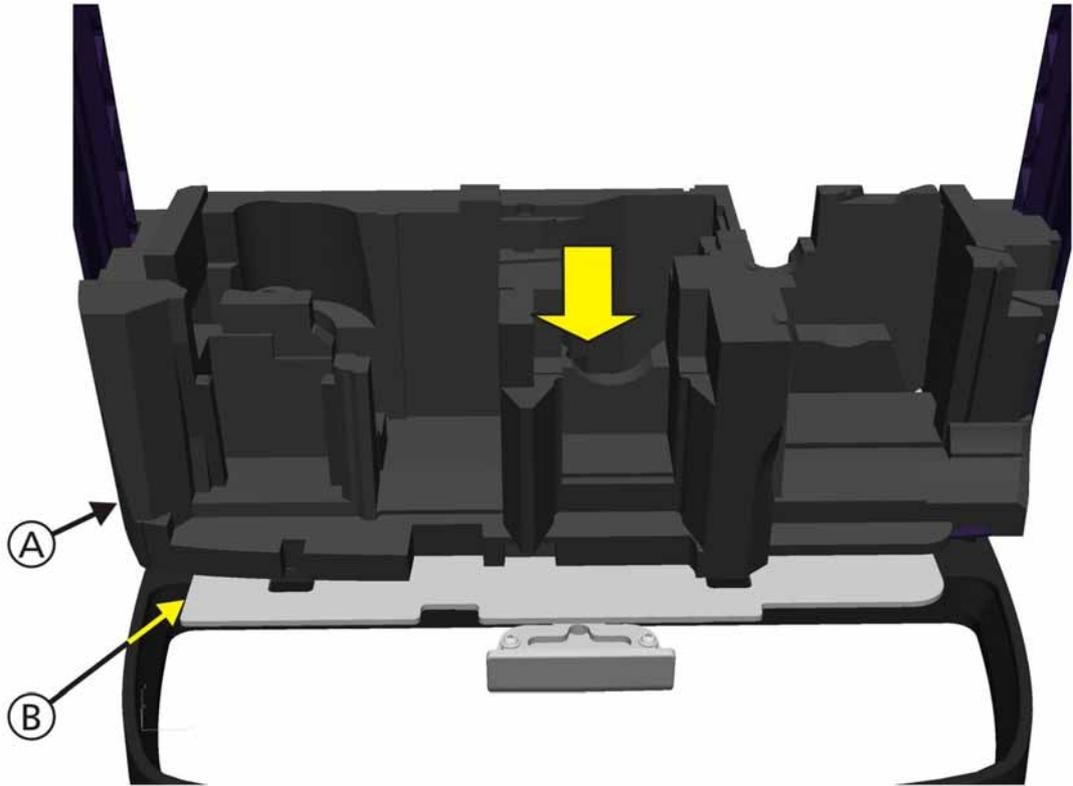

Figure 11-50. Bottom Foam Section Assembly
- Figure 11-50, *Bottom Foam Section Assembly*, on page 11-57